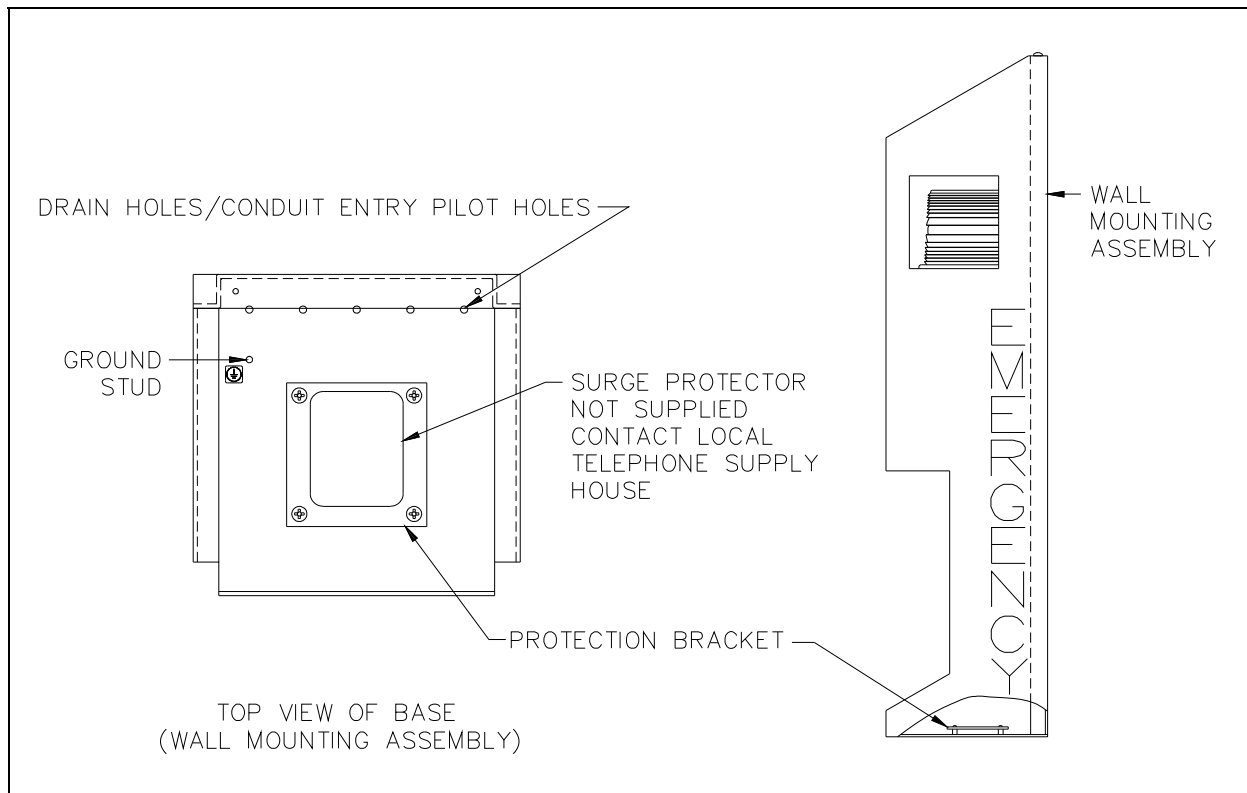

Figure 3. Conduit/Surge Protection Locations
4. Enlarge the conduit entry pilot hole(s) to be used for the station's power cables (see Figure 3).
A #10 grounding stud is located at the base of the station for grounding (see Figure 3).
5. Install a telephone line surge suppressor (sold separately) on the protection bracket in the bottom of the wall-mounted station assembly (see Figure 3).